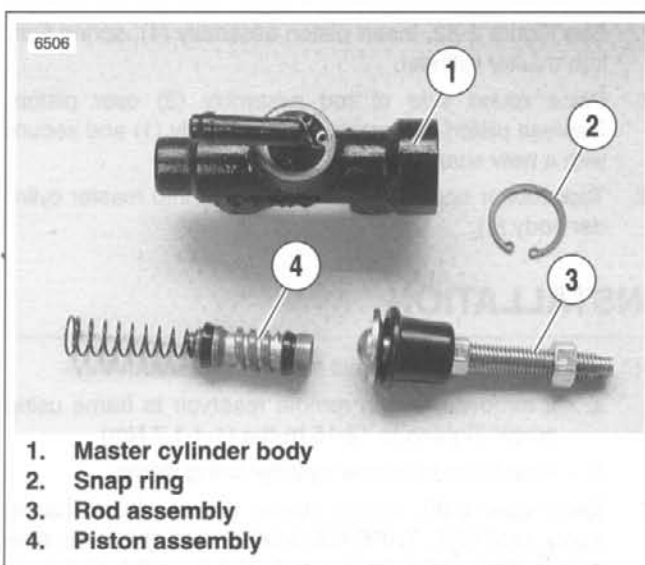

Figure 2-82. Master Cylinder Internals
1. See Figure 2-82. Slide rubber boot on rod assembly (3) away from master cylinder body (1).
2. Depress rod assembly (3) and remove internal snap ring (2). Discard snap ring.
3. Remove piston assembly (4) from master cylinder body.
1. See Figure 2-82. Insert piston assembly (4), spring first, into master cylinder.
2. Place round side of rod assembly (3) over piston. Depress piston into master cylinder body (1) and secure with a **new** snap ring (2).
3. Tuck rubber boot on rod assembly (3) into master cylinder body (1).